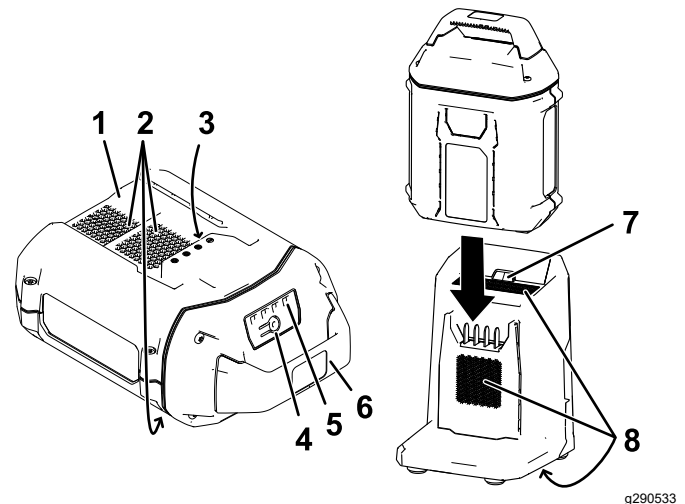

Figure 20
2. Line up the cavity in the battery pack (Figure 20) with the tongue on the charger.
- Slide the battery pack into the charger until it is fully seated (Figure 20).